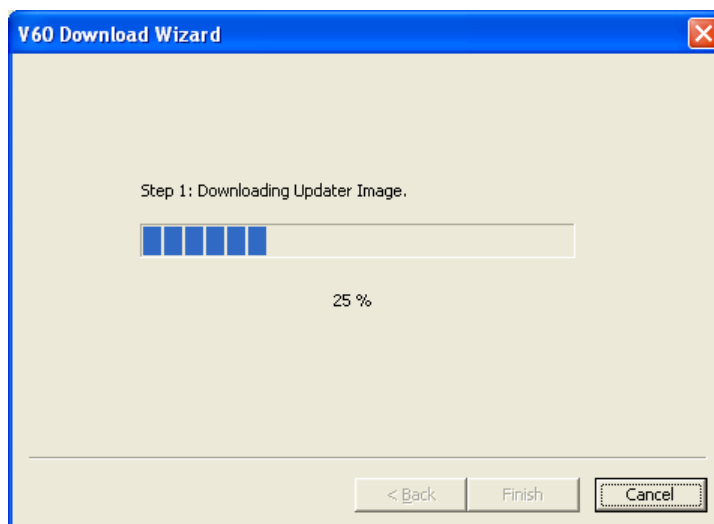

Figure A-16: Updater Image Download
13. The updater image download starts and a progress bar is displayed (Figure A-16).